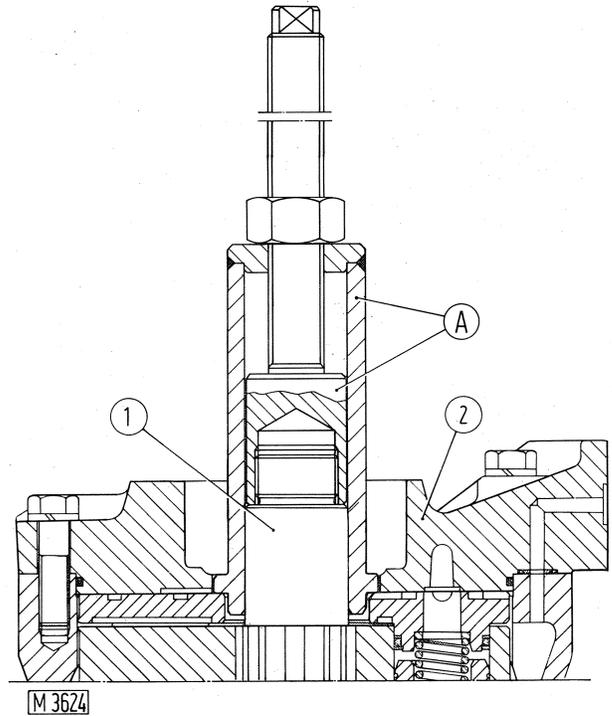

Fig. 2-9 - Schematic assembly of timing plate and rear end plate using press 75296078 (A).
- tighten guide pin of press 75296078 (A) on the threaded end of the pinion shaft (1, fig. 2-9);